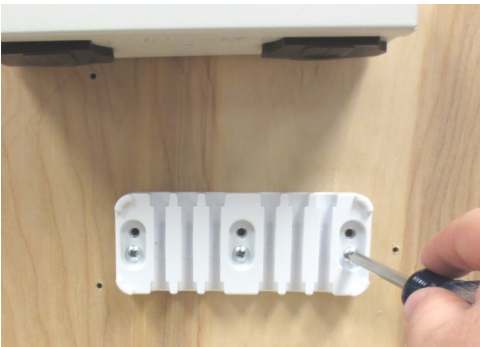

Fig. 3
3. The mounting screws are inserted in the bottom holes of the manifold plate. Drill 1/8" pilot holes and secure by using the three mounting screws provided (Fig. 3).